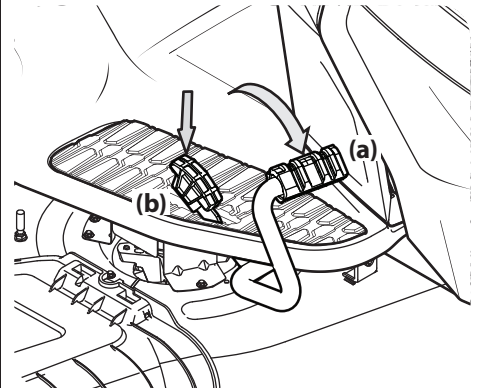

Figure 3-4
2. To travel FORWARD, slowly press the forward drive pedal (a) forward until the desired speed is achieved. See Figure 3-4.
3. To travel in REVERSE, check that the area behind is clear then slowly depress the reverse drive pedal (b) until the desired speed is achieved. See Figure 3-4.